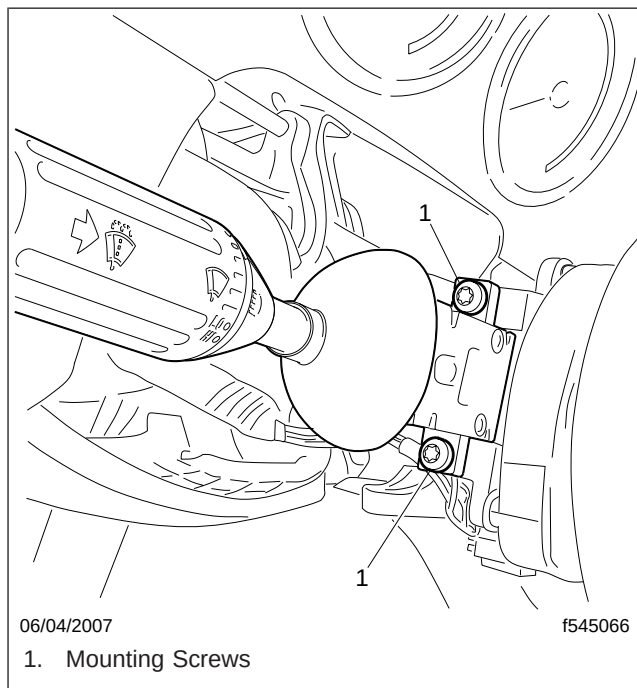

Fig. 1, Turn Signal Switch Assembly
3. Remove the two screws that secure the turn signal switch to the steering wheel assembly. See Fig. 1.